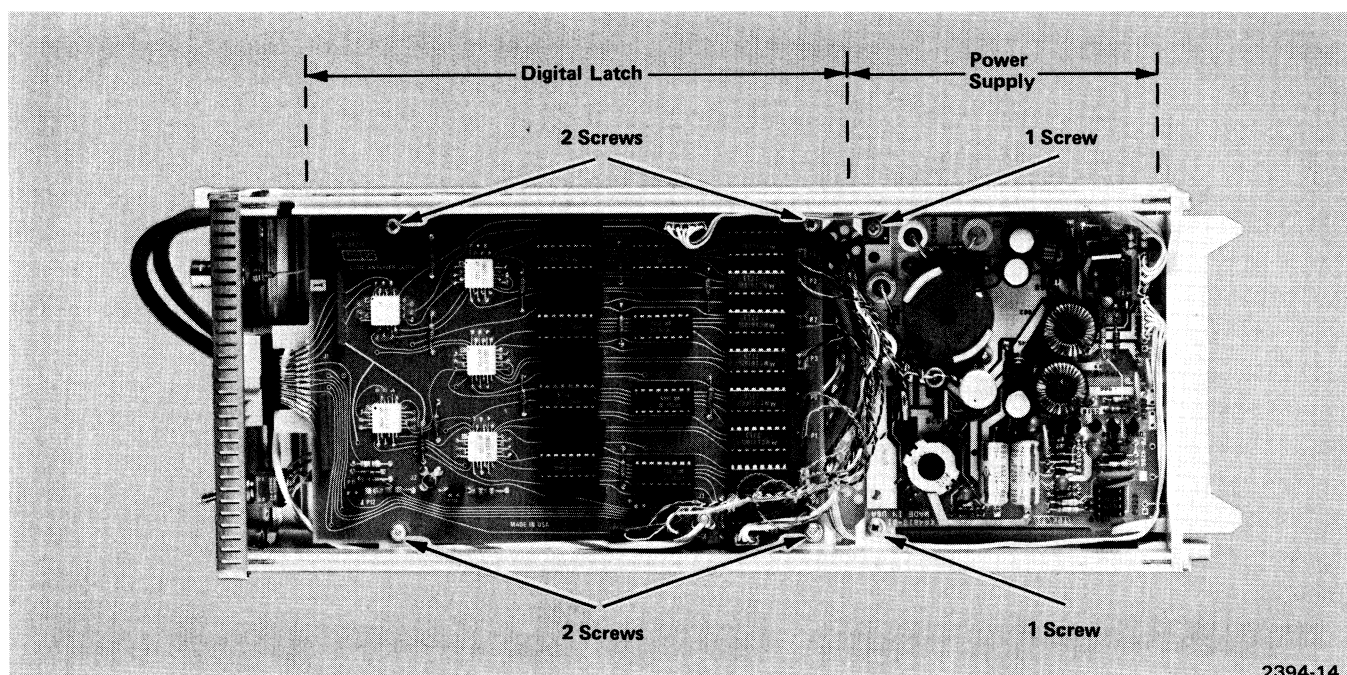

Fig. 3-11. Digital Latch and Power Supply circuit boards.
2. Remove four screws (see Fig. 3-11, from the Digital Latch circuit board, securing the board to the chassis.
2. Remove two screws (see Fig. 3-11), from the front part of the board, securing the board to the chassis.